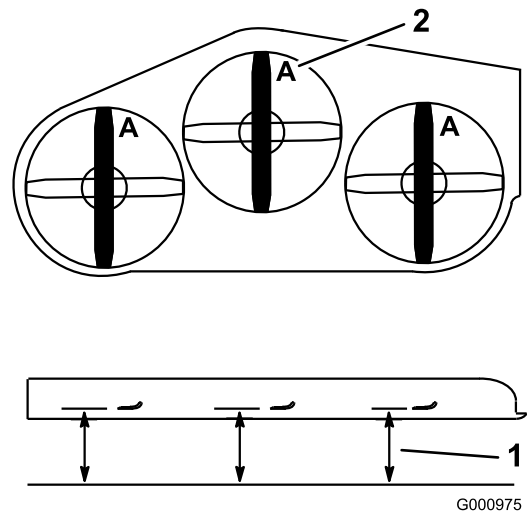

Figure 75
2. Measure from a level surface to the cutting edge, position **A**, of the blades (Figure 75).